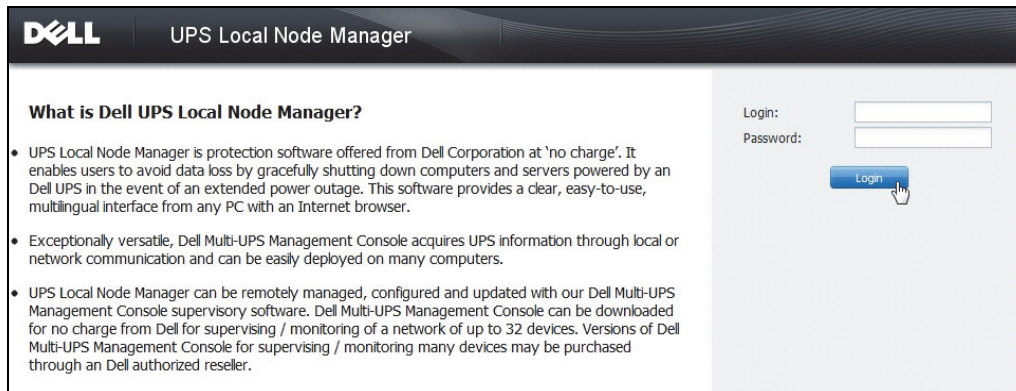

Figure 91. Login Page
- 2 Login (admin) / Password (admin) are default access entries. Type the login and password and click **Login** (see Figure 91).